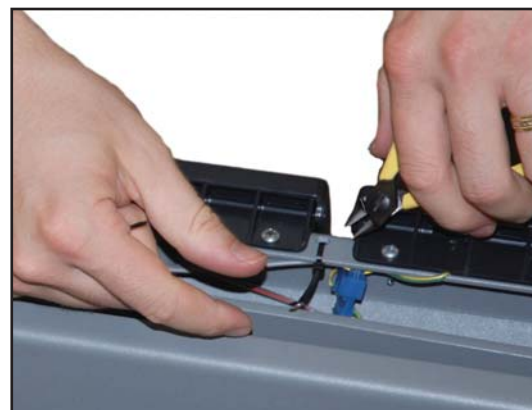

FIGURE 6.46
7. Using small Diagonal Cutters, cut all of the Cable Ties securing the Switch Harness to the Frame. Refer to **Figure 6.46**.